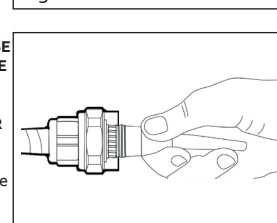

Figure 3b
- Slide sealing chamber onto cable and compound. Screw sealing chamber to body sub-assembly until it completely seats on body. Remove any excess compound (Figure 3b).